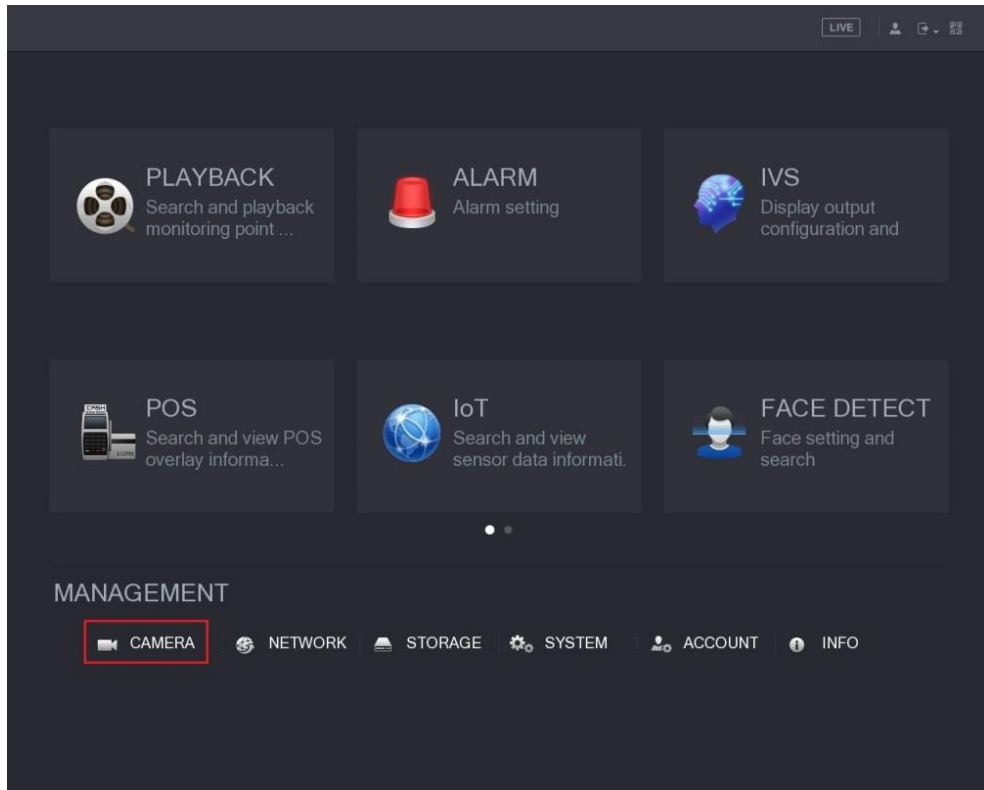

Figure 4-2
The **Main Menu** interface is displayed. See Figure 4-2.
Step 1 In the **Main Menu** interface (Figure 4-2), select **CAMERA > ENCODE > Encode**.